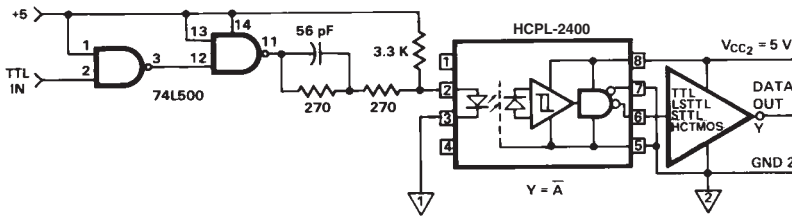

Figure 13. Recommended 20 MBd HCPL-2400/30 Interface Circuit.
- The typical data shown is indicative of what can be expected using the application circuit in Figure 13.
- This specification simulates the worst case operating conditions of the HCPL-2400 over the recommended operating temperature and V_{CC} range with the suggested application circuit of Figure 13.
A recommended LED drive circuit is shown in Figure 13. This circuit utilizes several techniques to minimize the total pulse-width distortion at the output of the optocoupler. By using two inverting TTL gates connected in series, the inherent pulse-width distortion of each gate cancels the distortion of the other gate. For best results, the two series-connected gates should be from the same package.
The circuit in Figure 13 also uses techniques known as prebias and peaking to enhance the performance of the optocoupler LED. Prebias is a small forward voltage applied to the LED when the LED is off. This small prebias voltage partially charges the junction capacitance of the LED, allowing the LED to turn on more quickly. The speed of the LED is further increased by applying